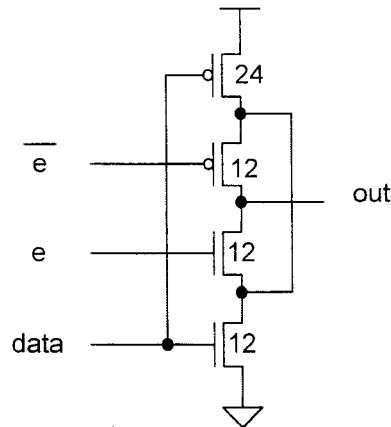

Figure 4.1
- d) Figure 4.1 shows a tristate bus driver with transistor sizes shown relative to unit size. By applying the Theory of Logic Effort, design an inverter chain to drive the enable input  $e$  of 128 such tristate bus drivers. You may assume that the first stage of your inverter chain may present an input capacitance of 6 unit-sized transistors. State any assumptions made.